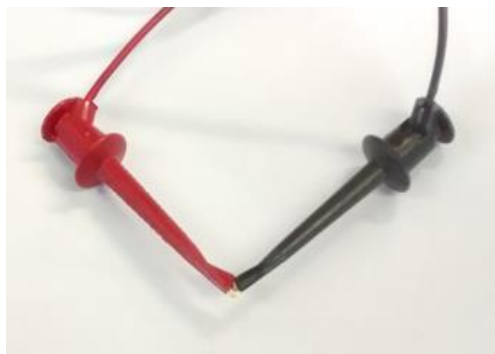

Figure 11-62: Short calibration
11. Connect the clips to each other as shown in Figure 11-62.